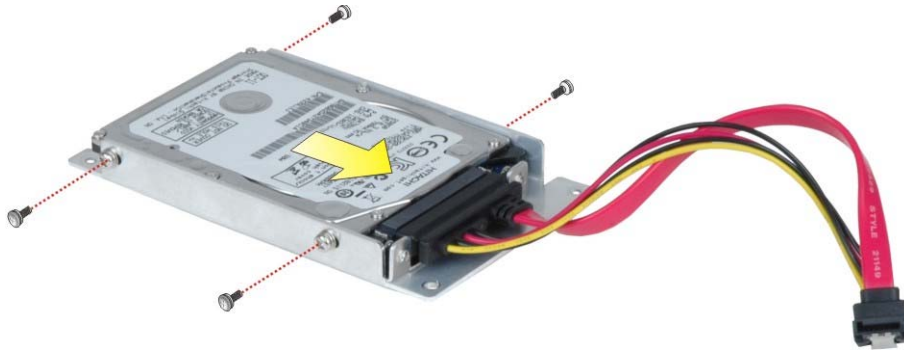

Figure 3-5: Inserting the HDD
Step 3: Insert an HDD into the bracket until the HDD is firmly connected with the SATA cable connector. Secure the HDD to the bracket using four retention screws (two screws on each side). See **Figure 3-5**.